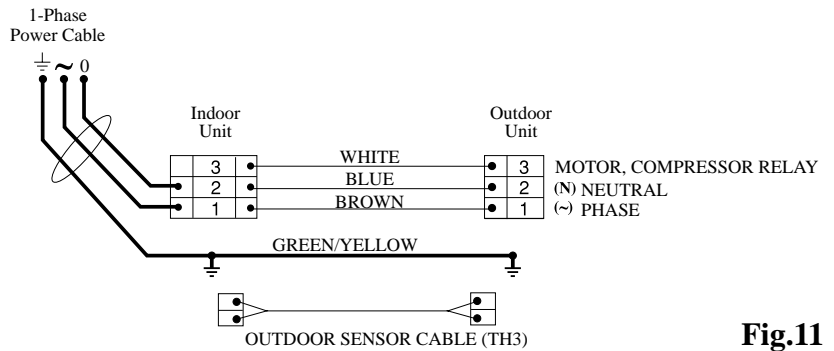

Fig.11
- Connect the wires in accordance with the color coding which appears in Fig. 11.